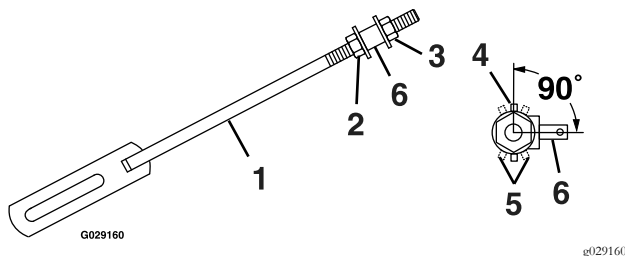

Figure 18
2. Loosen the front nut on left hydro control linkage as shown in Figure 18. Turn the rear control linkage adjusting nut counterclockwise until wheel rotates forward. Turn the rear nut of left control linkage clockwise 1/4 of a turn at a time, stopping to move the speed control forward and back to neutral, until left wheel stops rotating forward.
Turn the rear nut an additional 1/2 turn and tighten the front nut making sure not to put a bind on the linkage. Make sure flat part of linkage is perpendicular to pin part of swivel (see Figure 18).